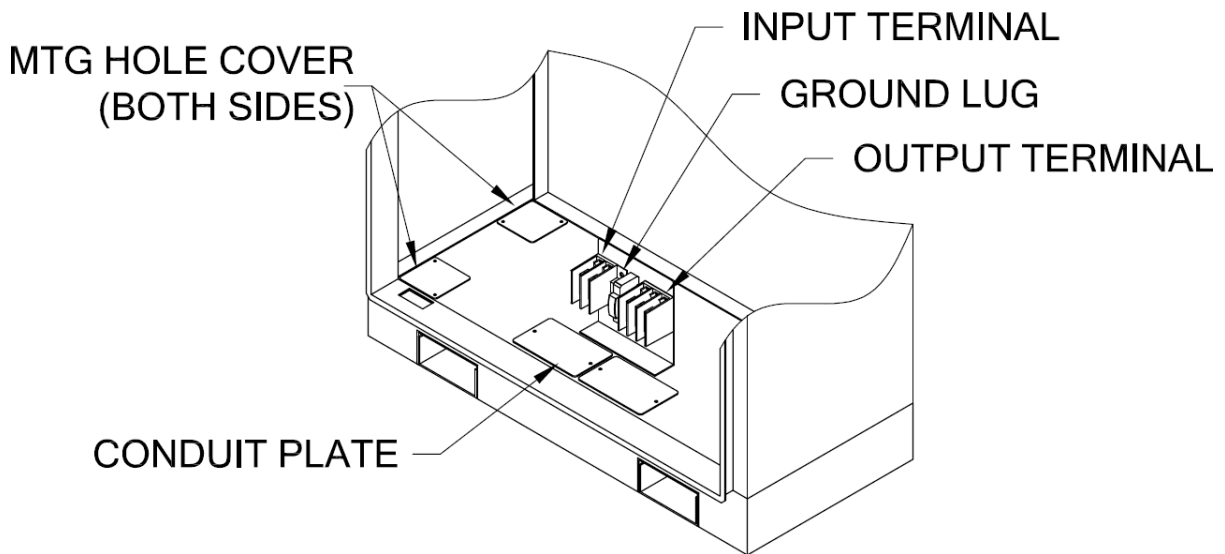
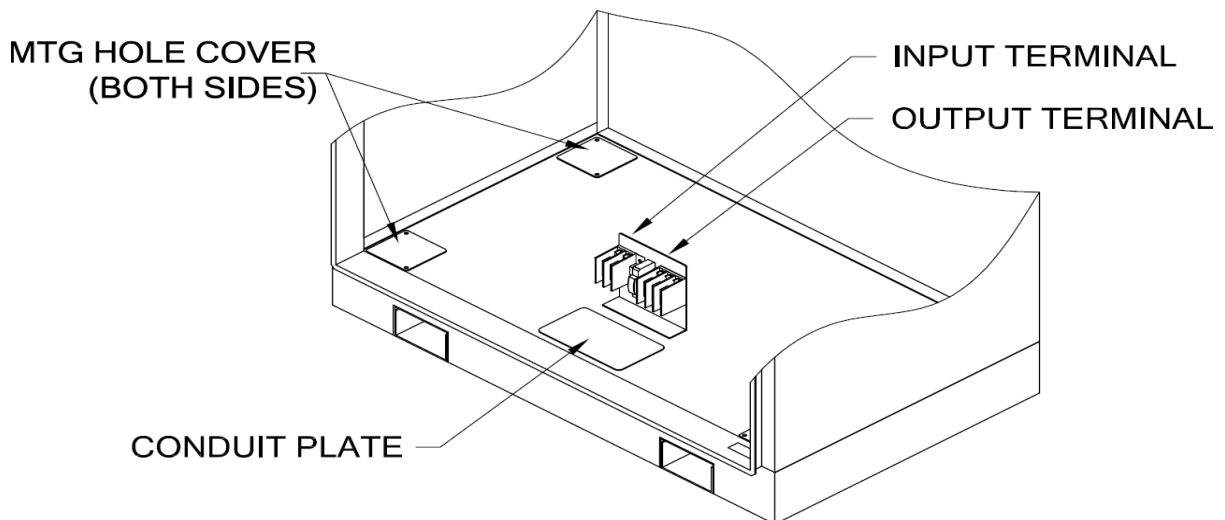

Figure 4-4 3KVA/3KW systems
Figure 4-5 All other systems
2. **Anchor the cabinet to the mounting pad by removing the 4 corner mounting plates (see Figure 4-4 and Figure 4-5 for more detail).**